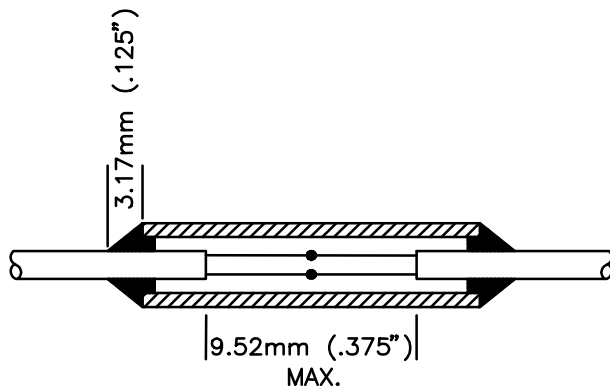

Figure 2
4. Slip the splice tube over the joint. Apply a minimum amount of flux to preclude flux flowing into the joint where it might contaminate the insulation. Braise the tube ends to the sheath, *see Figure 2*. Quench the completed joint with a water soaked rag and re-test unit with megger. Reading of 50 megohms or better should be obtained.